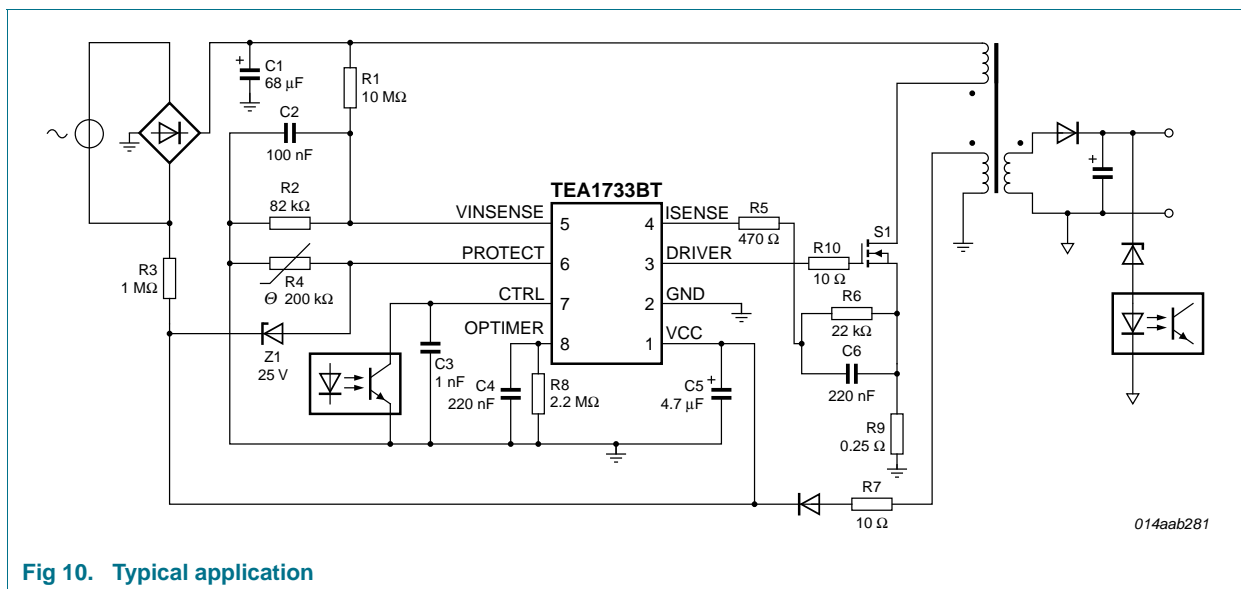

Fig 10. Typical application
A power supply with the TEA1733BT is a flyback converter operating in Continuous conduction mode (see Figure 10).
In the example shown in Figure 10, the PROTECT pin is used for OVP and OTP. The OVP level is set by diode Z1 to $V_{CC} = 25.8$ V. The OTP level is set by Negative Temperature Coefficient (NTC) resistor R4. The VINSENSE pin is used for mains voltage detection and resistors R1 and R2 set the start voltage to about 80 V (AC). The overpower protection time is defined by capacitor C4 at 60 ms.